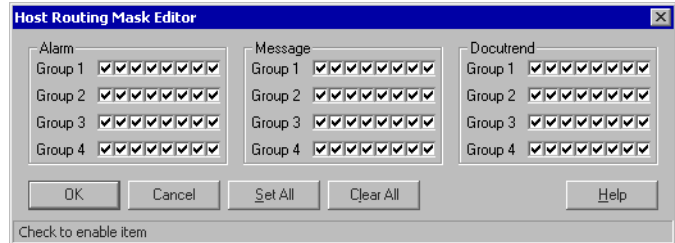

Figure 3-16. Host Routing Mask Editor
1. Select the remote host from the list box and double-click, or click **Modify**. The Host Routing Mask editor (Figure 3-16) displays.